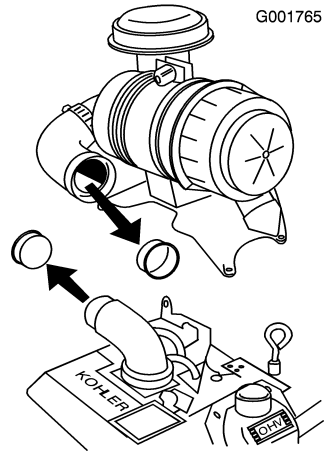

Figure 18
3. Remove the plastic plugs (Figure 18).